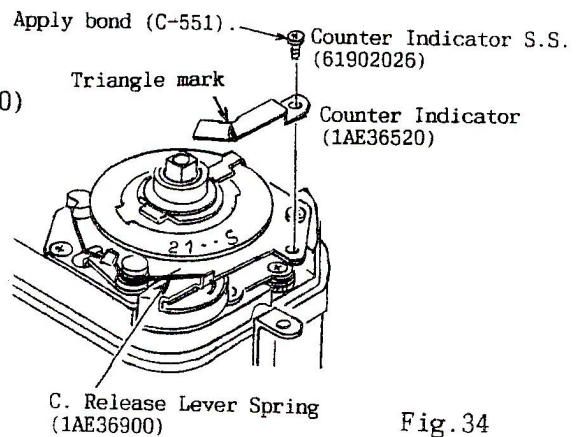

Fig.34
- 5) Install the C. Release Lever Spring (1AE36900) and set it. (See Fig.34)